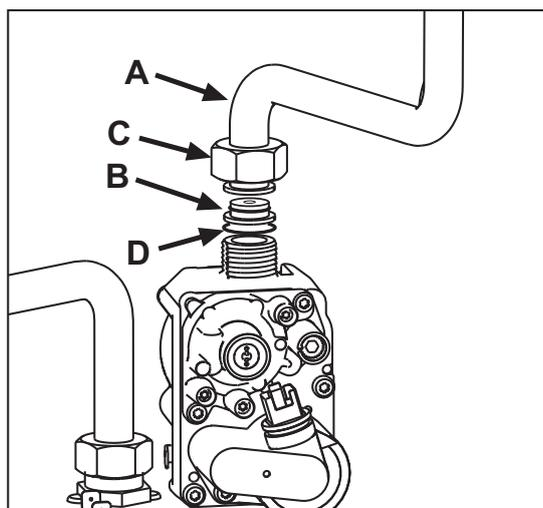

fig. 23
- Unscrew ring **C** and remove gas pipe **A** from the gas valve (see fig. 23).
- Replace nozzle **B** inserted in the gas pipe with that contained in the conversion kit, interposing seal **D** (see fig. 23).